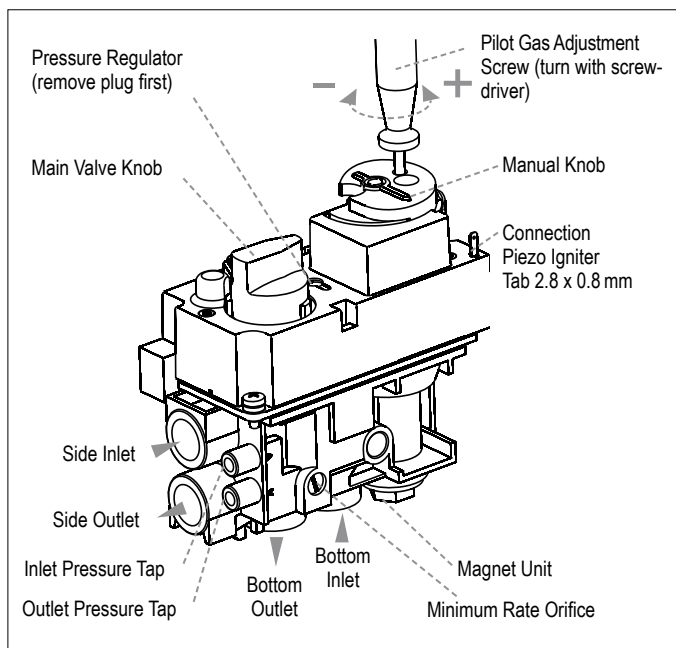

Figure 14: GV60, Connections and Adjustment Options
Knobs function as follows (see figure 14, page 8):
1. The adjustment screw can be reached through a hole in the MANUAL knob (see figure 14, page 8).
1. Connect a pressure manometer to the valve outlet pressure tap. Pressure tap is opened by turning the screw counterclockwise ↻. Pressure regulator or throttle are located under the cover and can be reached by removing the plug (see figures 14, page 8 and 16, page 8).